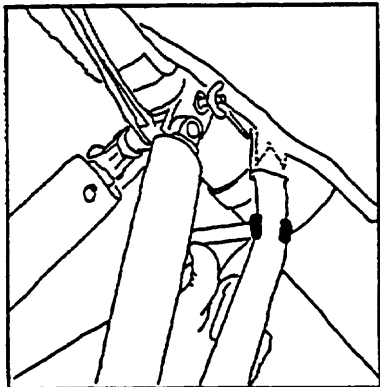

Figure 30
15) Set the hang loop spreader bar even with or just below the top edge of the streamlined downtube. (Figure 30)